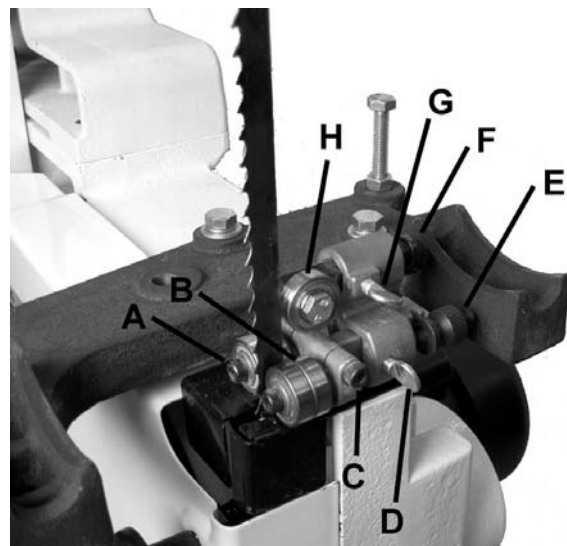

Figure 12
3. Loosen thumb screw (G, Fig. 12) and turn knurled knob (F, Fig. 12) to move the thrust bearing (H, Fig. 12) in or out until the bearing is 1/64" behind blade.
4. Tighten thumb screw (G, Fig. 12).
5. Loosen thumb screw (D, Fig. 12) and turn knurled knob (E, Fig. 12) to move the guide block bracket in or out until the front edge of the guide bearings are just behind the "gullets" of the saw teeth.
6. Tighten thumb screw (D, Fig. 12).
7. Loosen lock bolt (C, Fig. 12) and rotate guide bearings (B, Fig. 12) using cam (A, Fig 12) with provided 4mm hex wrench as close to blade as possible without pinching it.
8. Tighten lock bolt (C, Fig. 12).